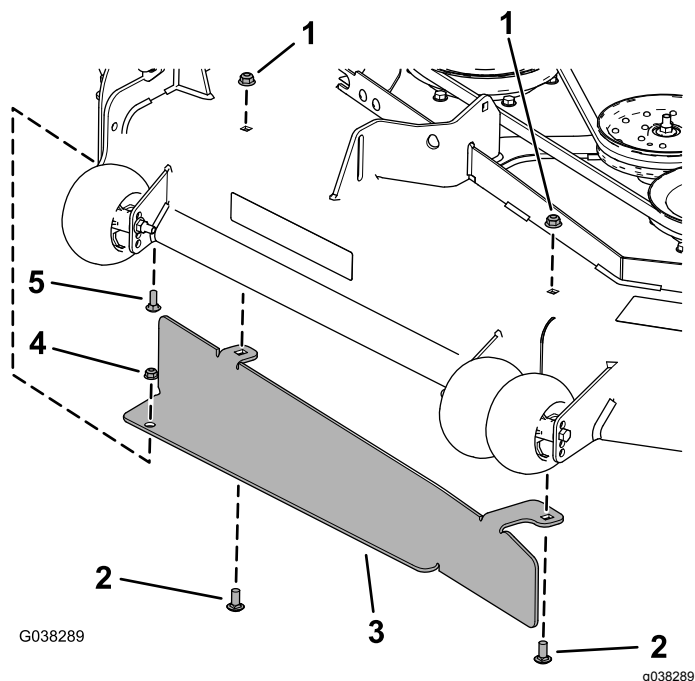

Figure 16
2. Install the baffle using the carriage bolt (5/16 x 7/8 inch), flange nut (5/16 inch), 2 carriage bolts (3/8 x 7/8 inch), and 2 flange nuts (3/8 inch) as shown in Figure 16.